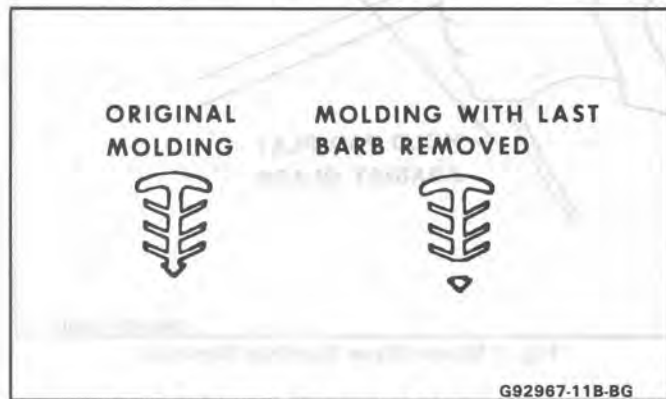

Fig. 2 - Removing Reveal Molding Barb
#### ↔ Install or Connect (Figs. 2, 3, 4)
1. To reuse original reveal molding, trim off barb and prefit in cavity (Fig. 2).